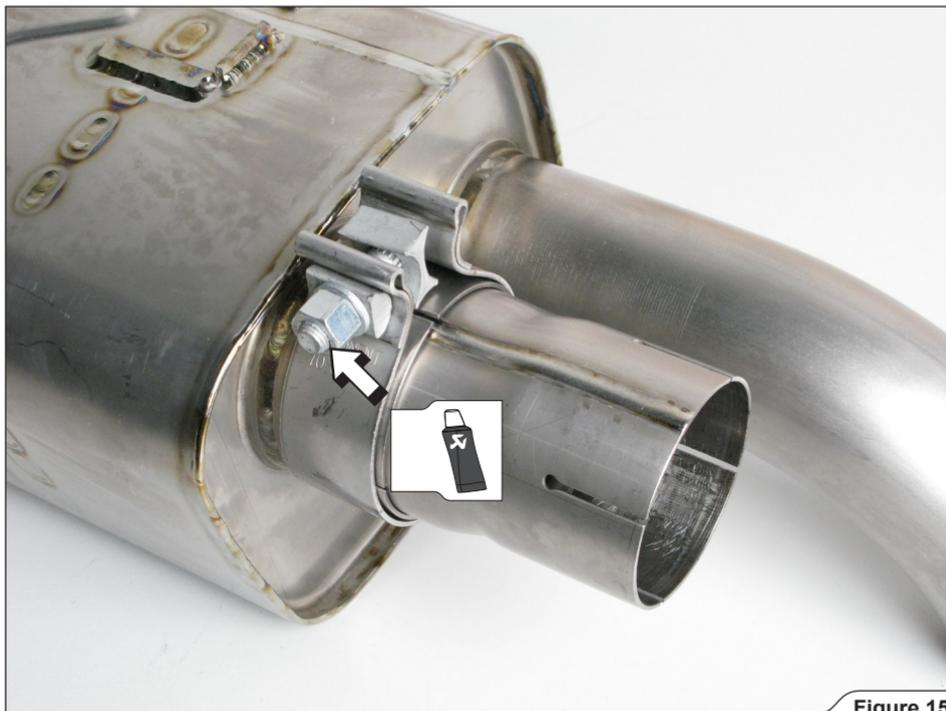

Figure 15
2. **For Slip-On only:** assemble Akrapovič clamps onto the muffler's inlets, as shown (Figure 15).